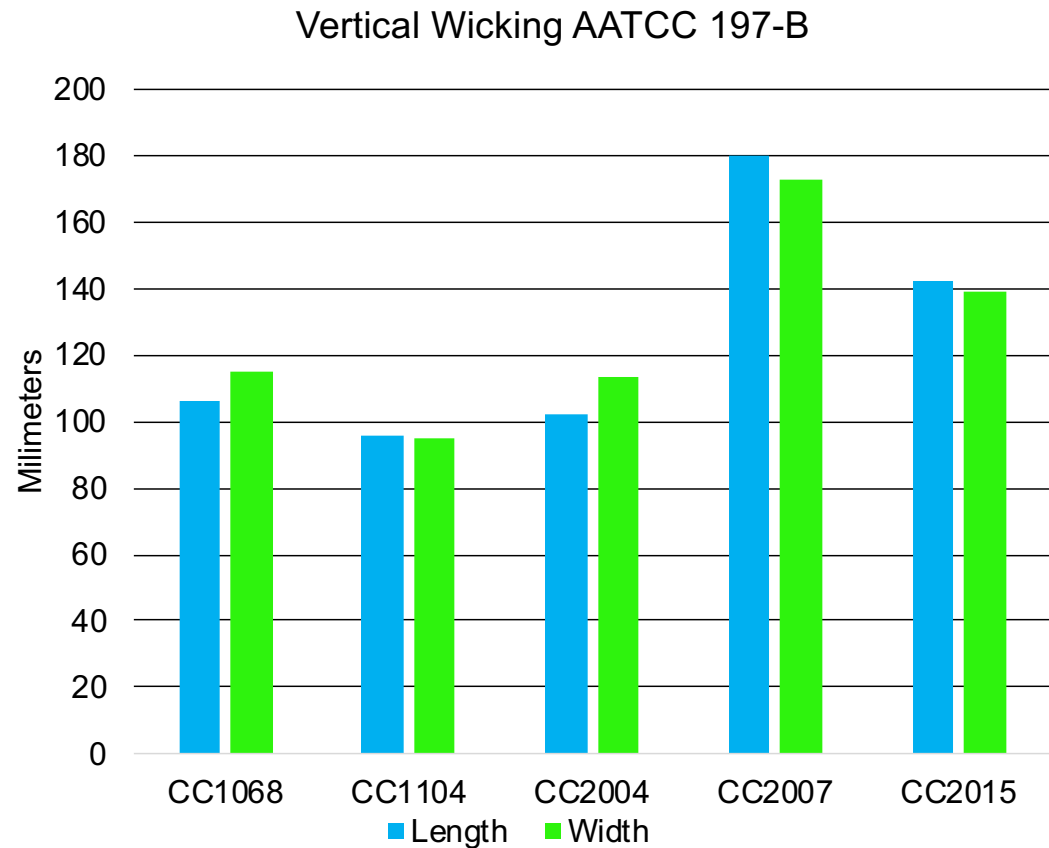

Figure 4. Graph of Vertical Wicking AATCC 197 of select Coolcore styles.
- As shown in Figure 4 only one of Coolcore’s fabrics hit this mark.
- Referencing Figures 4 & 5: